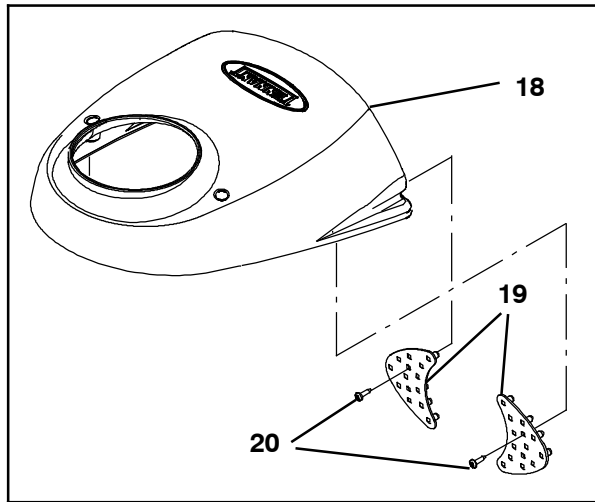

FIG. 2
- Use two pan screws (20) to install each LED light assembly (19) onto the light module cover (18). (Fig. 2)